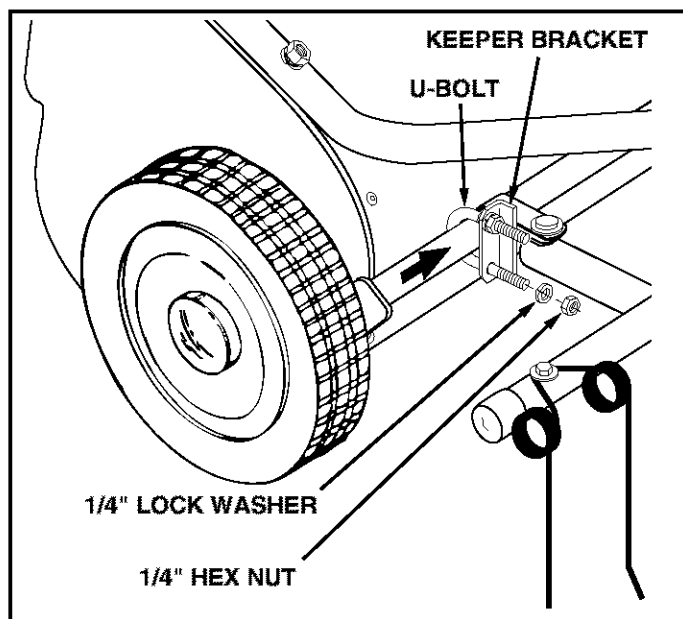

FIGURE 5
- Assemble the keeper brackets (bend to the inside) to the sweeper's hitch tube, outside of the conduit clamps. Use a u-bolt, two 1/4" lock washers and two 1/4" hex nuts per bracket. Position the keeper brackets against the sides of the conduit clamps, approximately perpendicular to the ground. Tighten the hex nuts without bending the keeper brackets. See figure 5.